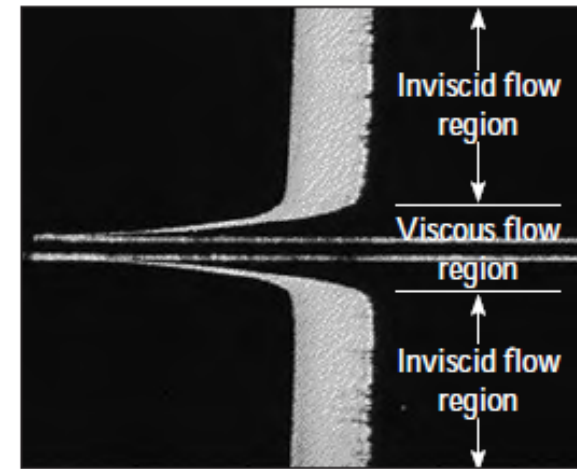

FIGURE 1-15
- where viscous forces are negligibly small compared to inertial or pressure forces. Neglecting the viscous terms in such **inviscid flow regions** greatly simplifies the analysis without much loss in accuracy. **See figure 1-15**